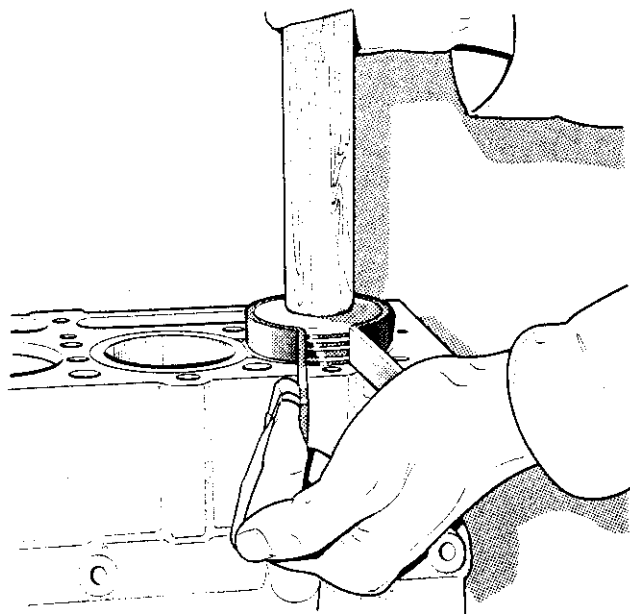

Figure 16 Compressing rings for refitting pistons
10. Insert the piston and connecting rod assemblies into the appropriate bores, ensuring that the piston crown arrow or front marking is facing the front of the cylinder block. The piston rings should be rotated so the gaps are equally spaced around the circumference of the pistons. Compress the rings using a piston ring compressor (**Figure 16**) and gently tap the assemblies into place.